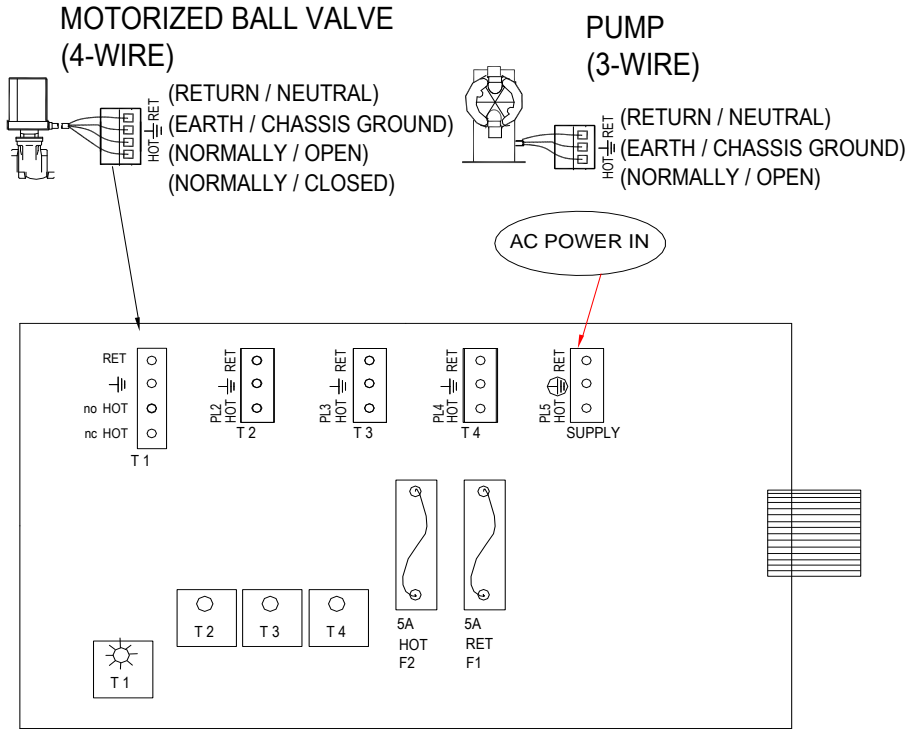

Fig. 4
Conduit controllers have openings for conduit connections for hard wiring. (See Fig. 4) for input and output power connections. Use only 18 AWG (1,2 mm²) stranded wire for conduit power and load connections. Supply (input) power is connected via **PL5** located on the relay board (Fig. 4). The top part of this terminal block is removable to allow for easy access to the connector's three (3) screws.